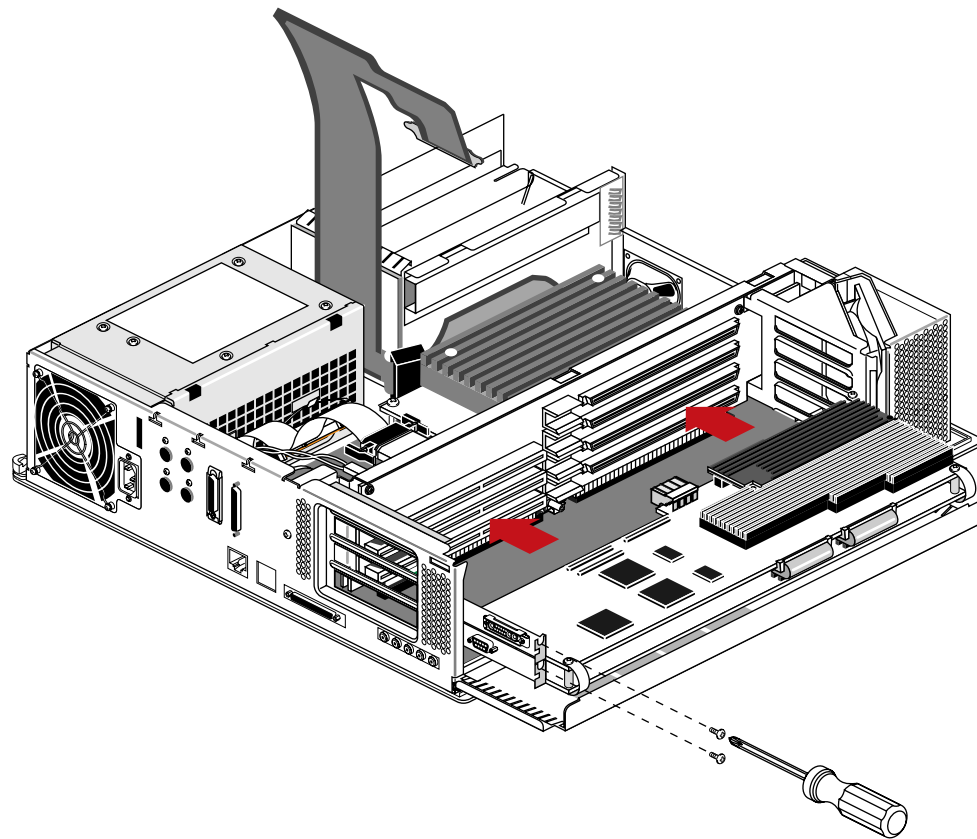

Figure 2-16 Installing the Indigo² IMPACT Graphics Boards
12. Install the graphics boards, any Indigo² IMPACT supported video board, and any EISA boards that you removed from the system. See Figure 2-16.
13. Secure each board with a screw at the upper left corner (see Figure 2-16).